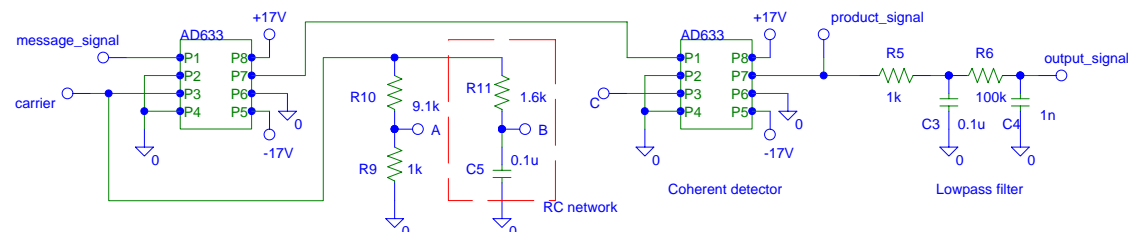

Fig. 3 Test circuit to observe the effect of a phase offset
1. From Equation (1), (a) obtain the expression for  $x_c(t)$  [1] when  $x(t) = A_x \sin(2\pi f_x t)$  and (b) plot [3] the DSB signal. The parameters are:  $A_c = 1$  V,  $f_c = 9$  kHz,  $A_x = 5$  V,  $f_x = 500$  Hz, (time span for the plot)  $TS = 4$  ms. [4 points total].
2. Equation (2) describes the spectrum of the DSB signal. Using the same function and parameters as above, (a) obtain the expression for  $X_c(f)$  [1] and (b) plot [3] the one-sided spectrum in the frequency span  $FS = 20$  kHz, use  $NF = -30$  dBV. [4 points total].
3. Equation (4) describes the product signal  $z(t)$  and Eq. (5) its spectrum  $Z(f)$ . Using the same function  $x(t)$  and parameters as before but changing  $A_x = 2.5$  V, (a) obtain the expressions for  $z(t)$  [1] and  $Z(f)$  [1] and (b) create the corresponding plot [3] in time domain with  $TS = 4$  ms and the one-sided spectrum [3] in the frequency span  $FS = 20$  kHz and  $NF = -30$  dBV. Assume there is no attenuation and set  $a_c = A_c$ . [8 points total]
4. During the lab, the phase offset  $\theta$  of Eq. (6) will be introduced in the local carrier by the RC network of Fig. 3. The output of this circuit is node B. Compute the phase shift introduced by this circuit at  $f = 10$  kHz. [Hint: Obtain the transfer function  $H(f)$  of this circuit and  $\theta(f) = \arctan(\Im[H(f)]/\Re[H(f)])$ . [3 points].
1. Keeping the power supply off, assemble the circuit of Fig. 3. Use FG1 as the message signal and FG2 as the carrier signal. Set the following parameters in FG1: Amplitude=10 V, Frequency=500 Hz, sine wave. For FG2: Amplitude=10 V, Frequency=10 kHz, sine wave.